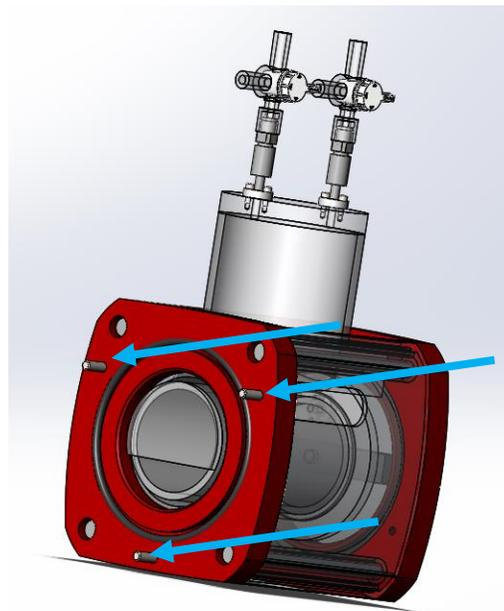

Figure 5 – Fastener locations for mounting Pump Head on the VIA
4. If using a VIA, place three more #8-32 x 7/8" fasteners in the clearance holes of the VIA as shown in Figure 5 below.